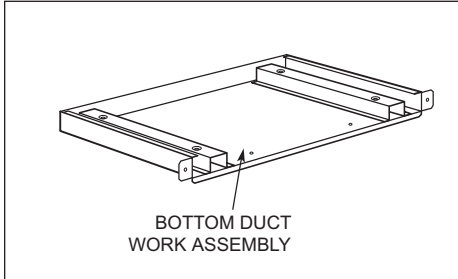

Figure 1
- A. Place microwave on bottom duct assembly (See Fig. 1).